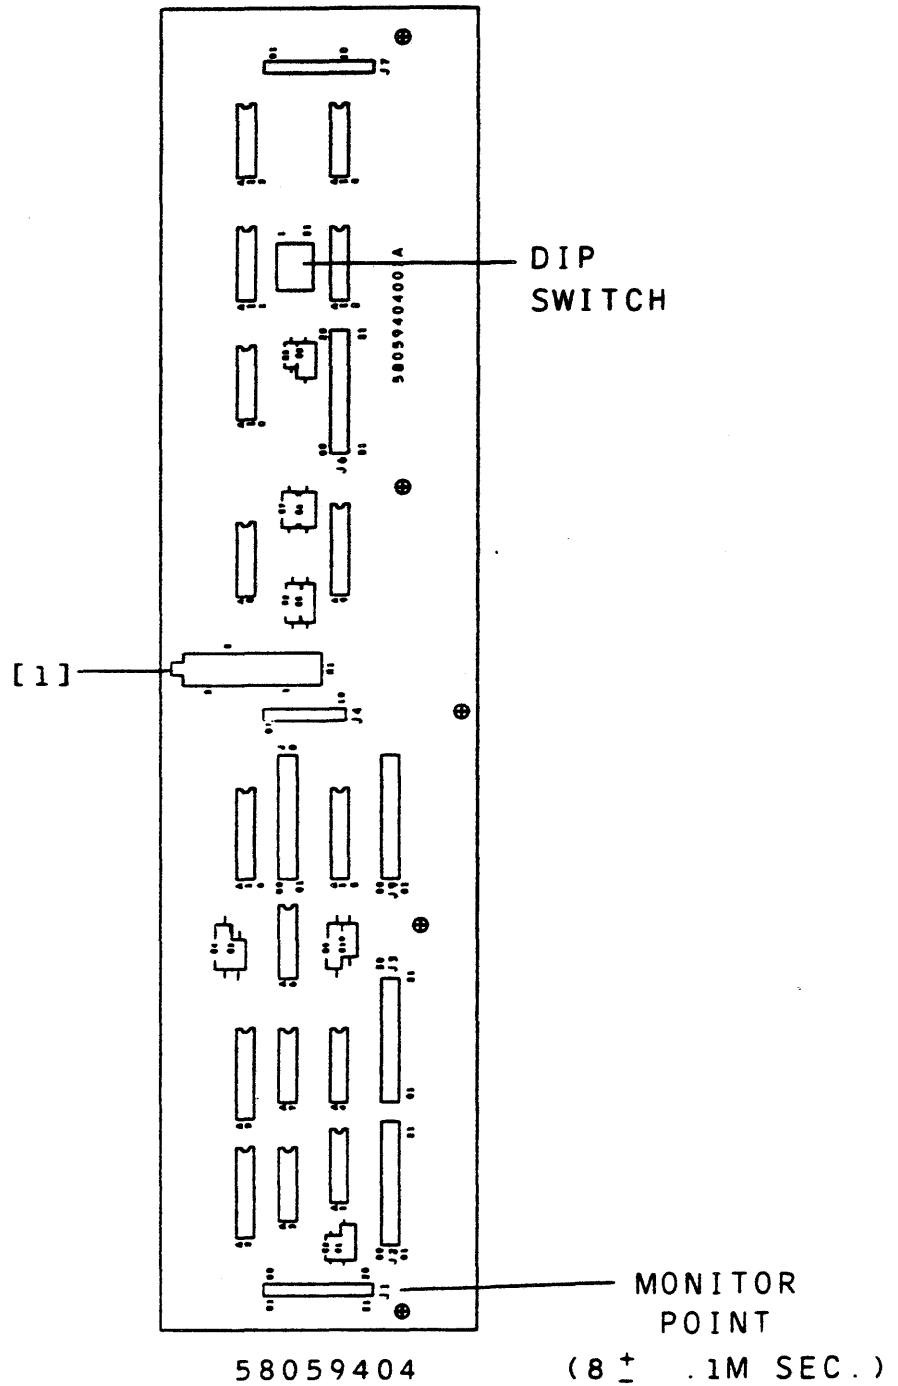

FIGURE 3.4-1. REFRESH OSCILLATOR (58059404-003) ADJUSTMENT
1. Using an oscilloscope, attach probe to point identified in chart and adjust pot as indicated (Figure 3.4-1, [1]):